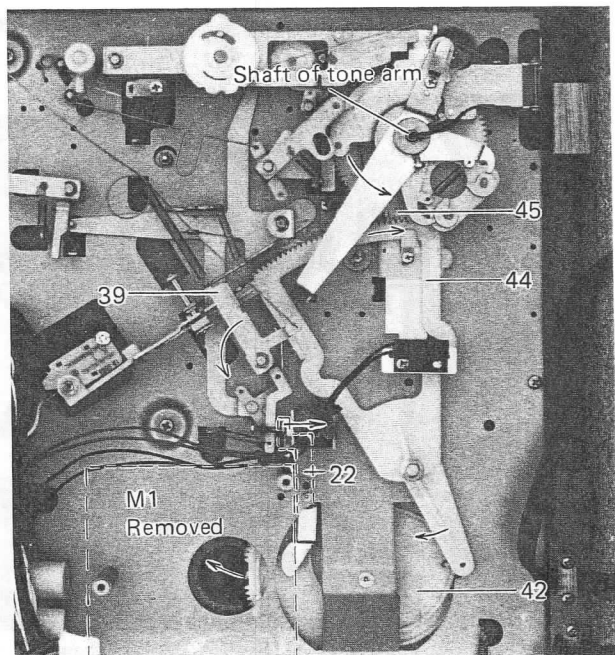

Figure 11
- (5) The Motor Gear turns the Main Gear (42) and the Gear (44) moves in the direction of arrow turning the Pickup Gear (45). The Tone Arm goes out from Arm Rest and begins playing. (Figure 11)